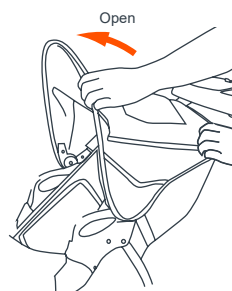

Fig. 10
- 10) • To open the canopy: push forward on the front edge of the canopy while holding the rear of canopy in place (Fig. 10).